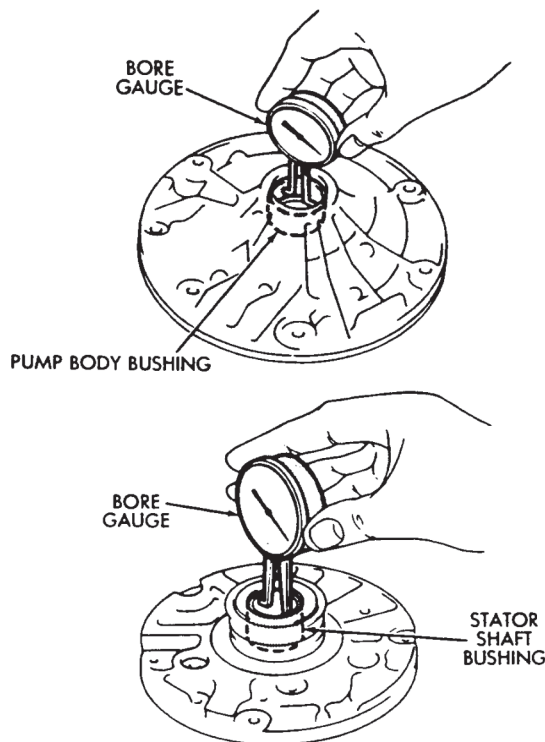

Fig. 2 Checking Pump/Stator Shaft Bushings
- (5) Measure inside diameter of pump body bushing with bore gauge (Fig. 2). Diameter should be maximum of 38.19 mm (1.5035 in). Replace pump body if bushing I.D. is greater than specified.
- (6) Measure inside diameter of stator shaft bushing (Fig. 2). Take measurements at front and rear of bushing. Diameter should be maximum of 21.58 mm (.8496 in) at front and 27.08 mm (1.0661 in) at rear. Replace stator shaft if bushing diameter is greater than specified.